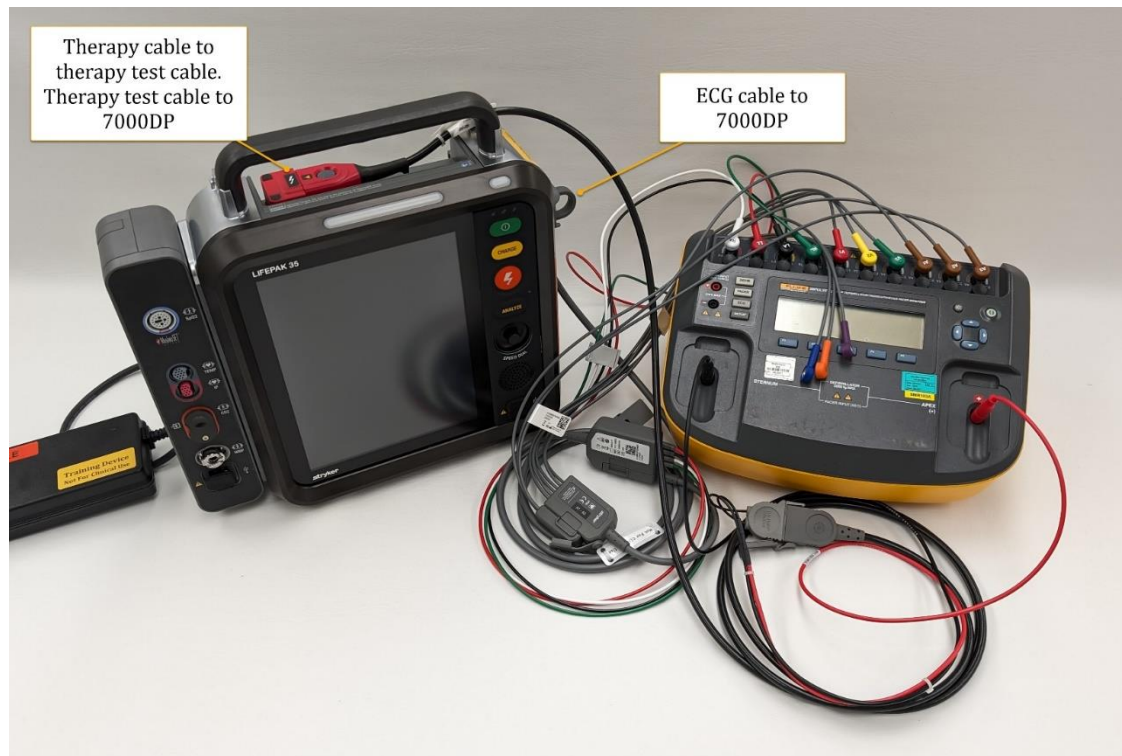

Figure 11
3. Refer to the actual setup Figure 11 below for reference: